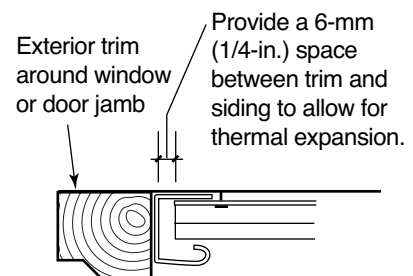

FIGURE 44
- Where siding butts into a window or door frame, provide a space, as recommended by the manufacturer. Most products use "J" trim to cover this space (see Figure 44).